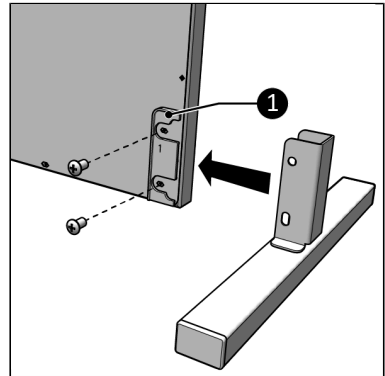

Figure 27.
3. Place the supplied plastic plates on the back of the heater (Figure 27, pos. 1).